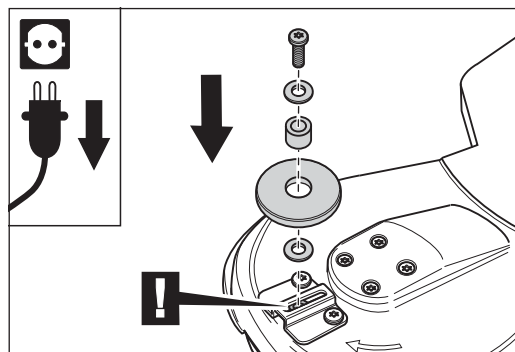

Fig. 73 Assembly of the wall-protecting roller. **Pay attention to the nut in the holder!**
- 4 Insert the bush in the new wall-protecting roller and place it on the holder of the wall-protecting roller with a washer on each side. **Ensure that the middle of the roller is located over the nut in the holder (fig. 73)!**